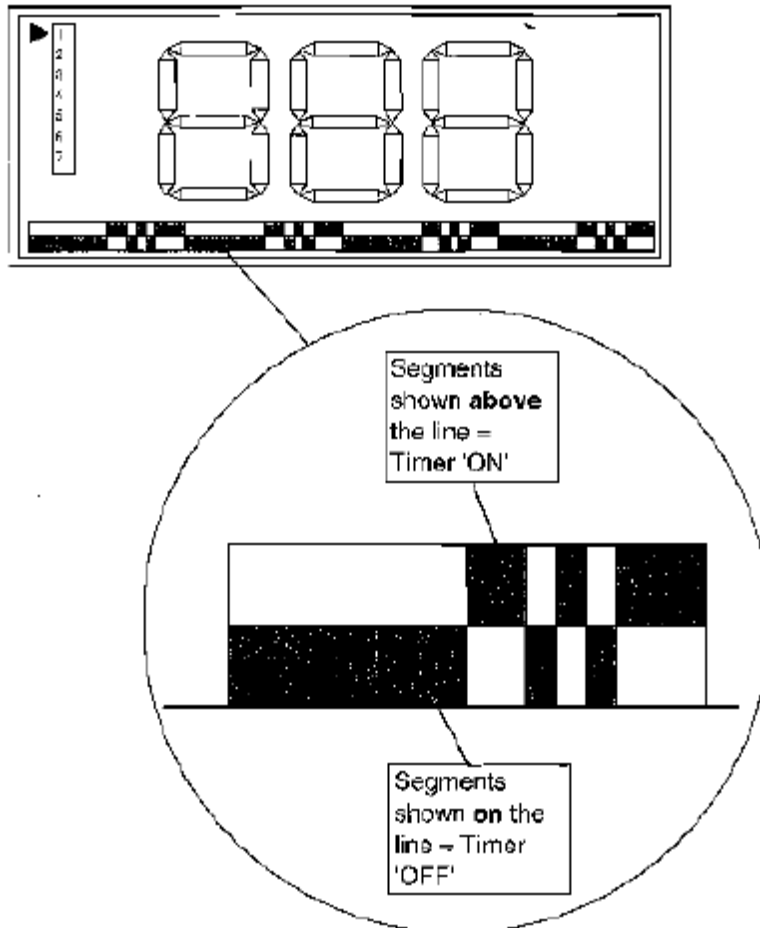

Fig. 3 Timer segments
5. The '+' button sets the 'ON' periods shown by the top row (Fig. 3). The '-' button sets the 'OFF' periods shown by the bottom row.
3. Press the '-' button to move the small arrow on the left hand side of the display down to '2' (Fig 3) and press 'OK'. '0000' will now be displayed, with the left hand zero flashing.